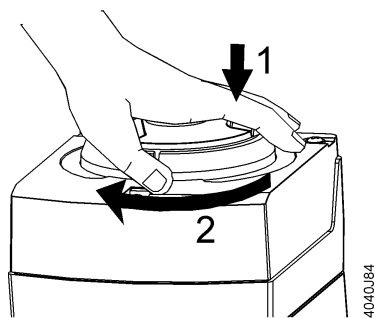

Figure 8.
6. Rotate the manual adjuster clockwise to manually extend the actuator shaft until it covers the head of the valve stem. See Figure 8.